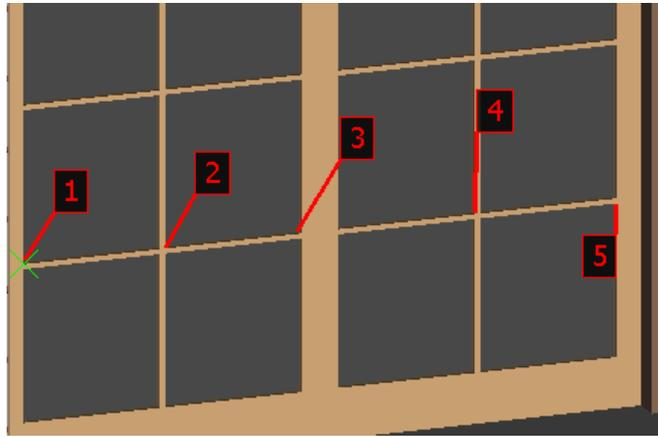

Figure 3-36 The cursor placed at point 1
2. Move and place the cursor at the point **1** and click when the snap to vertex cursor appears, as shown in Figure 3-36.